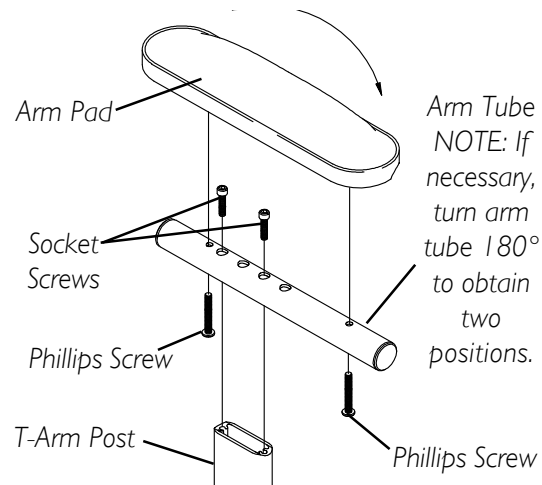

FIGURE 5 - ADJUSTING T-ARM DEPTH
ADJUSTING T-ARM DEPTH (FIGURE 5)
4. Position spring on bottom bracket as shown in FIGURE 5.